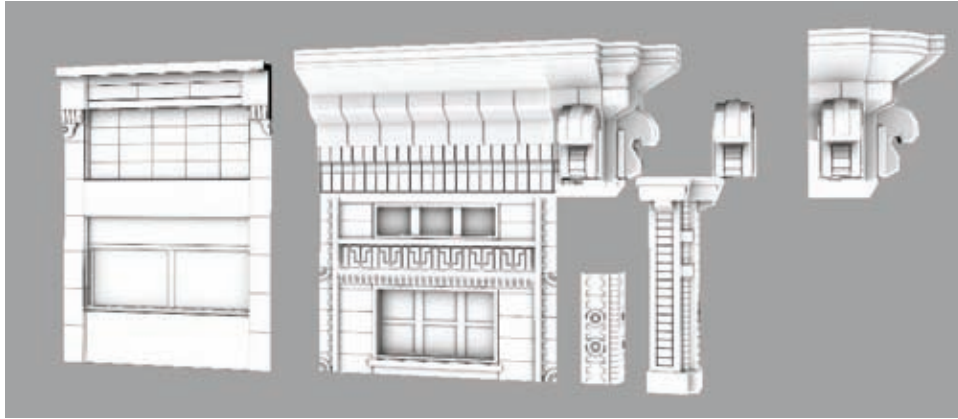

Figure 5.57
1. Just as you have in the previous chapters, you can use the Transfer Maps command to bake an Ambient Occlusion (AO) and normal map base texture for each of the four textures you UV mapped in the previous section (Figure 5.57).